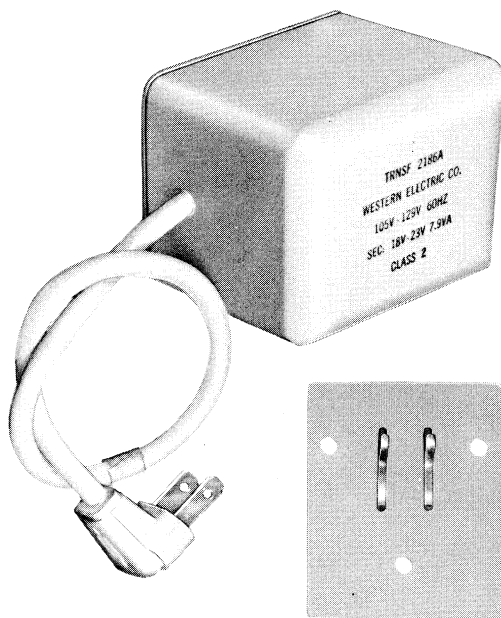

Fig. 16—2186A (MD) Transformer
**9.02** These transformers (Fig. 16 and 17) supply power for the 700A and 700B subscriber sets.